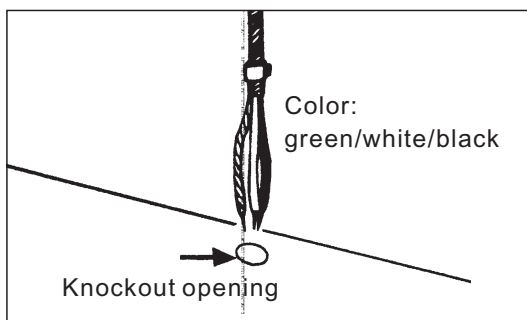

Fig.10
- a. The electrical line is routed through the appropriate Knockout opening. This step will have to be accomplished while positioning the hood (Fig.10)